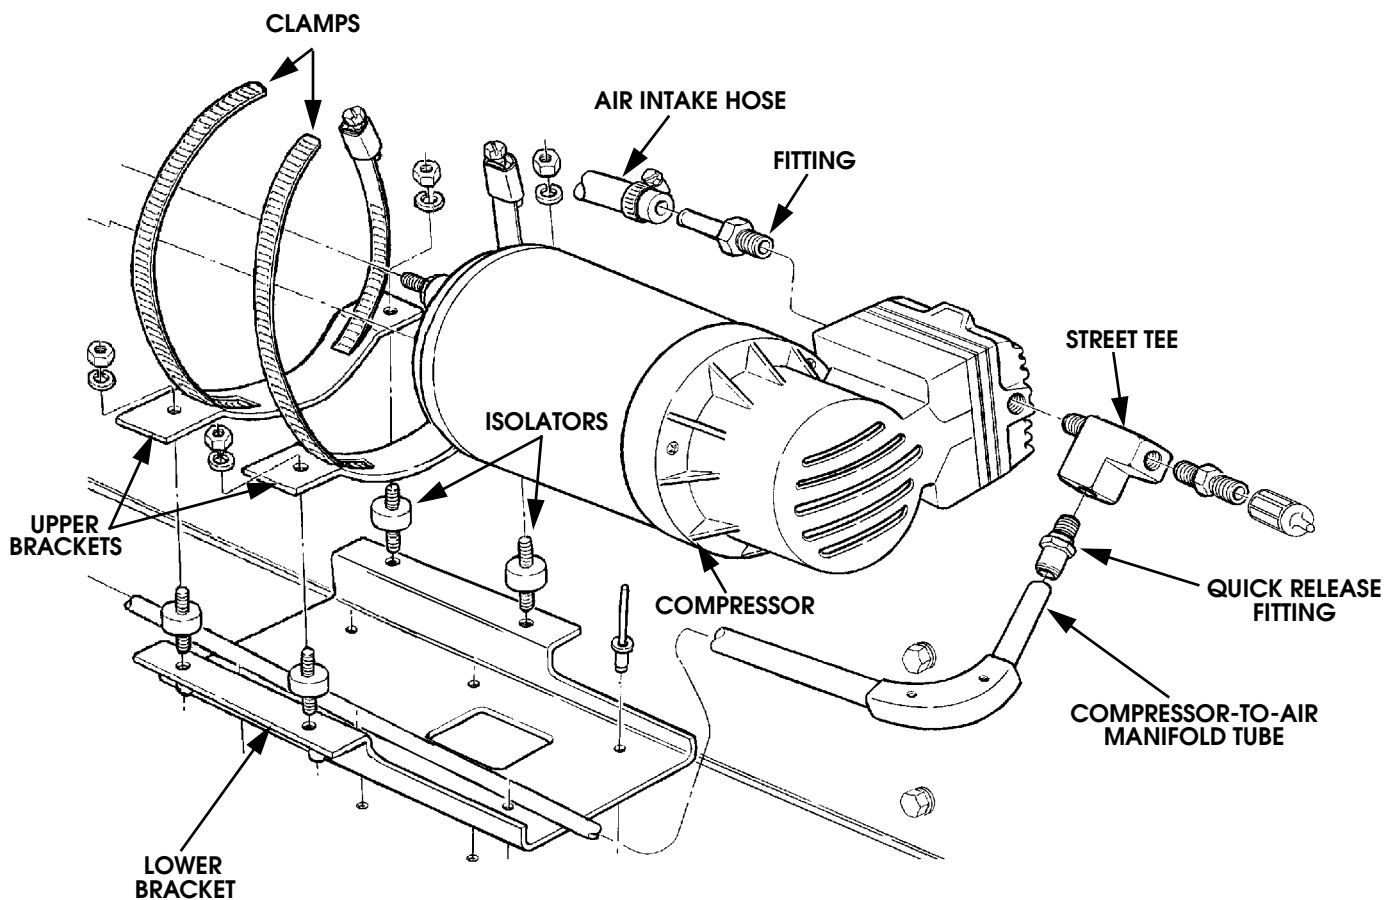

Figure 6-56: CTIS Compressor
2. Disconnect leads from compressor (Figure 6-56).
1. Install four isolators, two upper brackets, and clamps to lower bracket with four locknuts (Figure 6-56).